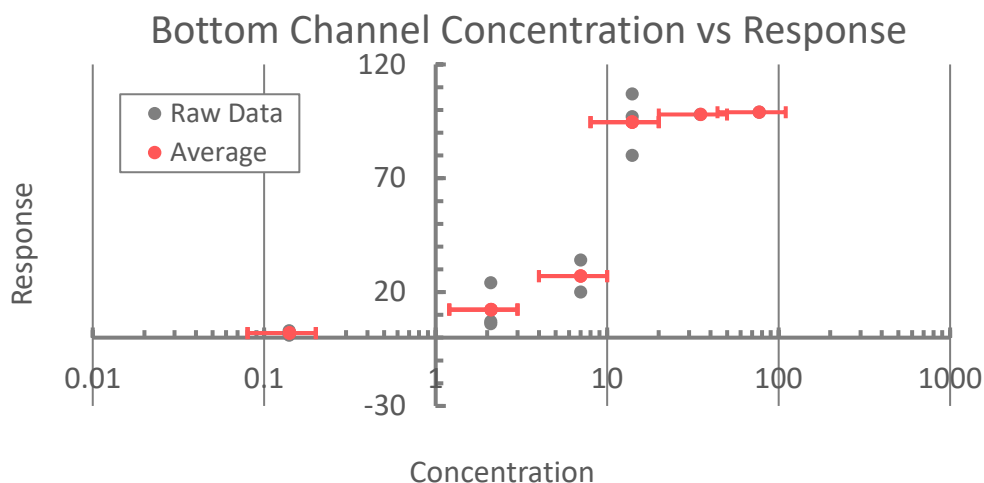

Figure 3
2. After performing the intended Organ-Chip study, use the potential cellular exposure range (most conveniently in the form of Table 1) to draw horizontal error bars around each measurement — these indicate the uncertainty in the concentration that the cells are actually exposed to. This action can also be performed within the “Dose-Response” tab in the calculator by entering the dosing concentrations and selecting the corresponding time period for which to adjust these concentrations. A “Best Estimation” of average exposure concentrations as well as the minimum and maximum possible exposure concentrations will be returned. Additionally, if data has been generated for a toxicity or other dose-response study, the response data can be entered, and a dose-response graph will be generated for each channel. An example of this is shown in Figure 3. The figure illustrates a representative dose-response curve with the estimated average cellular exposure concentration plotted versus cellular response. The data is plotted with error bars or confidence intervals for the exposure concentration at each dosed concentration, based on the results of the distribution control study. This process can be repeated for each time period being analyzed.